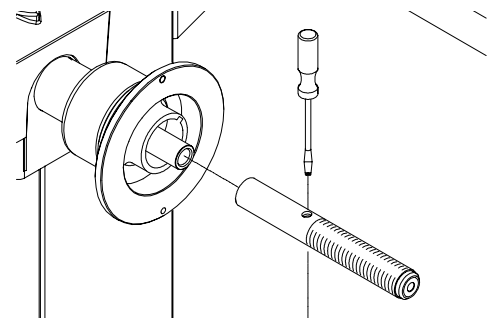

Figure 6
**A.** Mount the threaded shaft onto the arbor of the balancer. Tighten firmly using a screwdriver. (Figure 6).